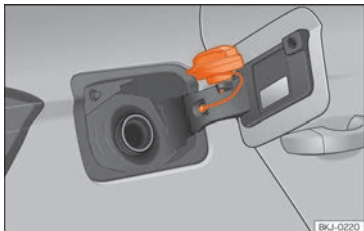

Fig. 192 Fuel tank flap with tank cap attached.
- Place it in the space on the hinge of the open flap »» Fig. 192.